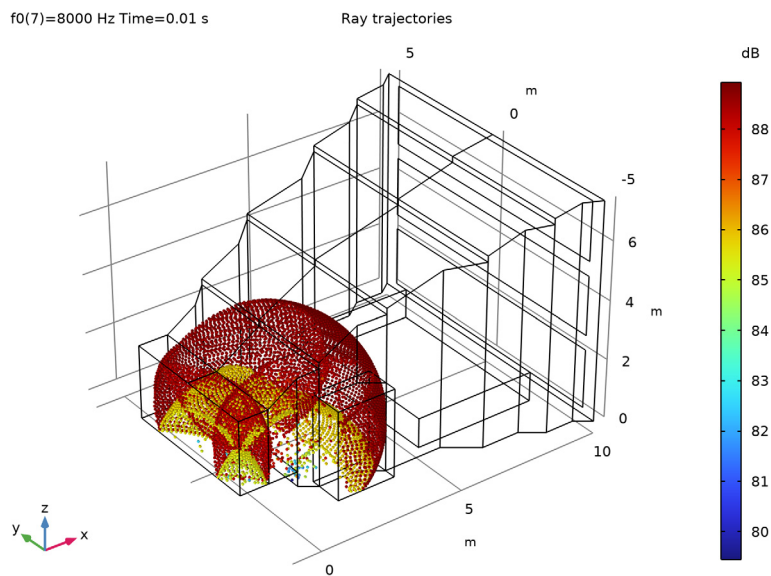
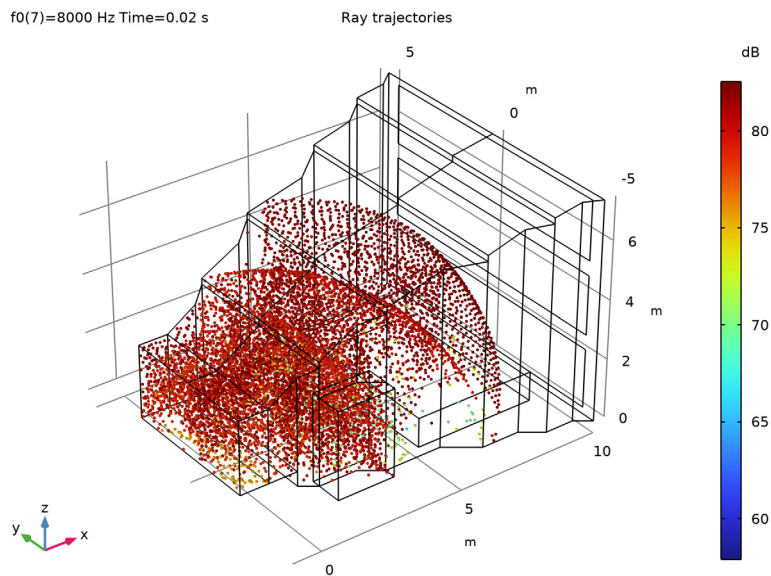

Figure 2: Ray location and SPL after 10 ms with the omnidirectional source.
Figure 3: Ray location and SPL after 20 ms with the omnidirectional source.
The first study allows to derive the room impulse response and the objective quality metrics by activating only the omnidirectional source. The local wavefront sound pressure level (SPL) is depicted in Figure 2 after 10 ms and in Figure 3 after 20 ms propagation for the 8 kHz frequency band. This type of plot can be used to inspect holes in the geometry and potential standing wave patterns. Creating an animated version is easily done and can help the visual inspection. When the **Compute intensity** option is selected in the *Ray Acoustics* interface, wavefront curvature, intensity, and SPL is calculated along each ray. They allow visualization of the (spatially) local acoustic properties. However, it is the acoustic power transported by each ray that is important when calculating the impulse response (IR) and when visualizing the sound pressure level at surfaces. This means that the **Compute power** option should always be selected for IR computation, while the **Compute intensity** can be turned off. Only selecting **Compute power** will also reduce the number of degrees of freedom (DOFs) solved for, making the model run faster and the size of the saved file smaller. The **Count reflections** option is also necessary when analyzing the IR.